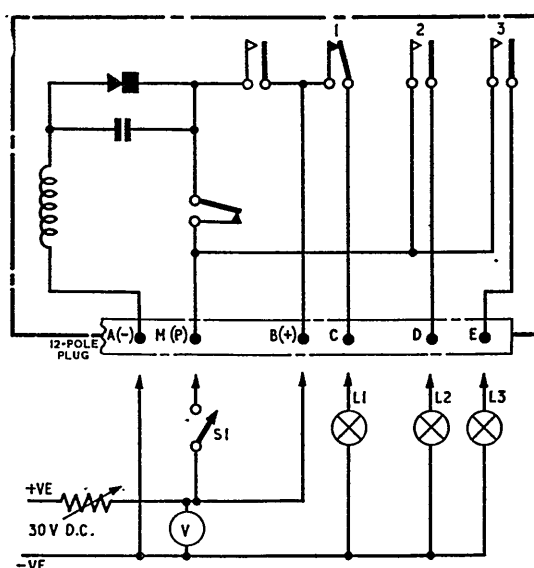

Fig. 1. Switch, Type D8133, circuit diagram and test circuit
1. This time delay switch has four pairs of circuit contacts, the circuit diagram (fig. 1) shows the switch internal wiring and the associated test circuit. The total motor run and circuit contact timing is detailed in para. 3.